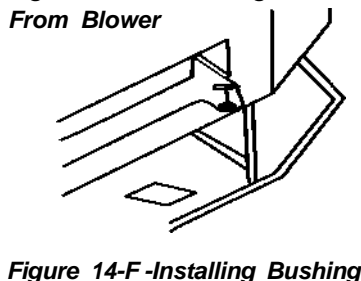

Figure 14-F-Installing Bushing
4. Install one plastic bushing provided in blower kit into the 1.5" hole in the left rear of firebox floor. Access hole through the rectangular opening in the rear panel (see Figure 14-F).
17. Peel off the backing paper and stick the supplied wiring diagram decal on the stove floor as shown in Figure 14-F.